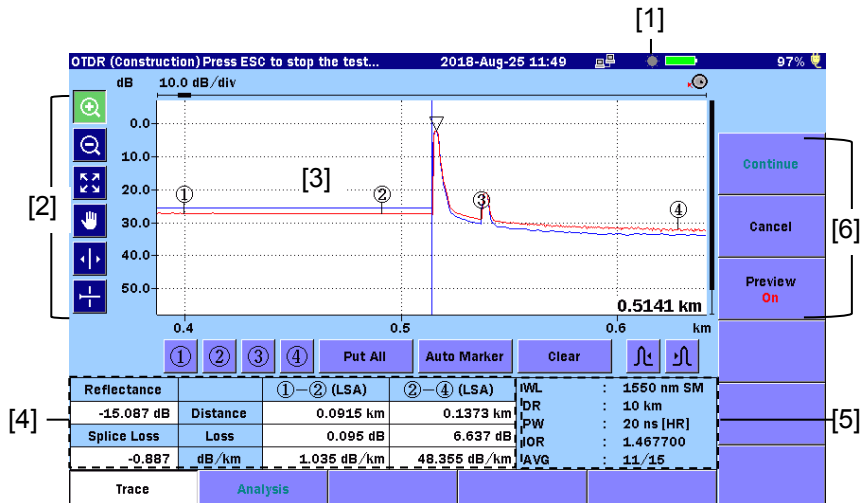

Figure 6.5-2 Test In Progress Screen
When Preview is set to On on the Test In Progress screen (Figure 6.5-2), the results of OTDR (Construction) measurement are displayed.
- When Connection Check is Off, the Test In Progress screen is displayed (Figure 6.5-2).